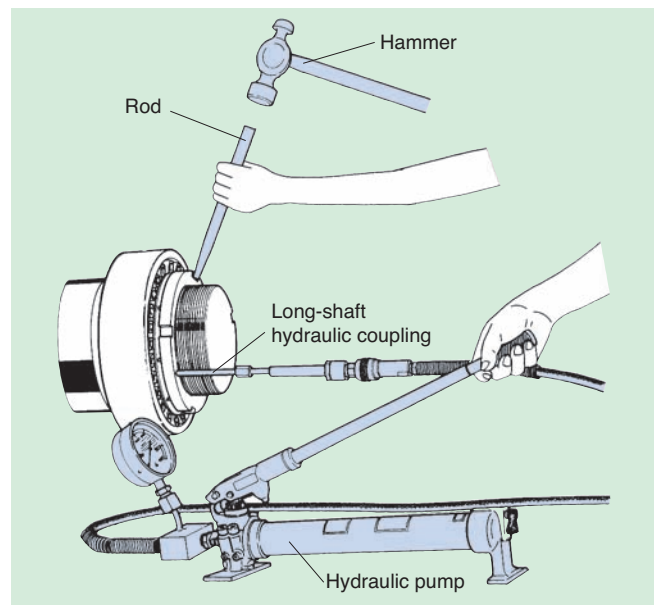

Fig. 20
- (5) Turn the withdrawal nut using the pressure from the hydraulic pump, and remove the hydraulic withdrawal sleeve (see **Fig. 20**).